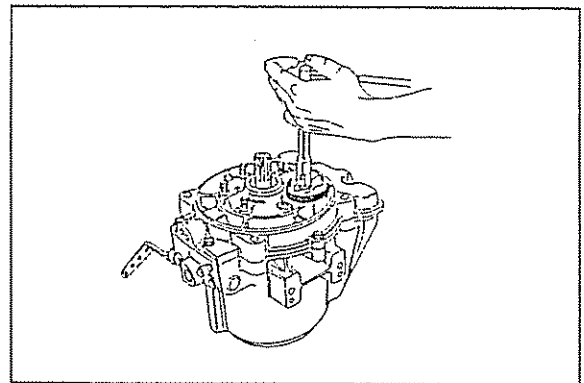

FIGURE B1
1.3 Using a 13 mm wrench remove 6 (six) M8x25 bolts (T2-2 #11) and washers that attach the pump assembly (T2-2 #14) to the adapter housing Figure B1.